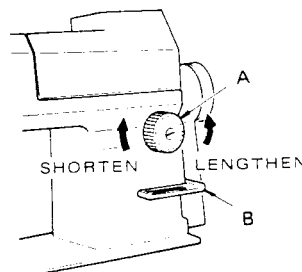

Fig. 34
- To regulate the length of stitch, turn feed regulating dial **A** to the left or right, as shown in Fig. 34.